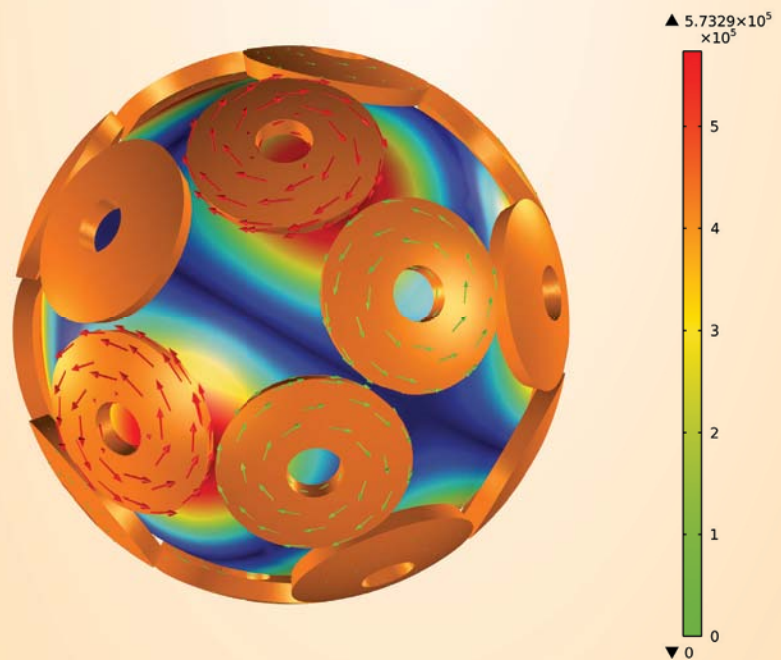

Fig. 2. Model geometry showing the coil distribution around the rotor.
Fig. 2 shows the geometry for the model and some results. A hot zone in the upper part of the vessel is clearly visible; this is due to the buoyancy effect generated by local temperature differences which are created by the heat of the dimerization re-
Fig. 2. Temperature (K) in a 3-dm³-vessel, shown in the left cross-section, after 21 s; note the hot zone building up in the upper section. The cross-section at the right shows the complex velocity field caused by free convection in the vessel.